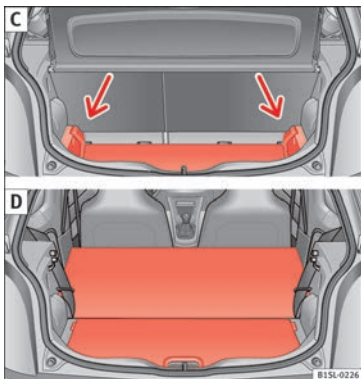

Fig. 139 C: extend the boot downward. D: extend the boot forward.
- Raise the boot floor and push it downward in the rail » **Fig. 139 C** (arrows)